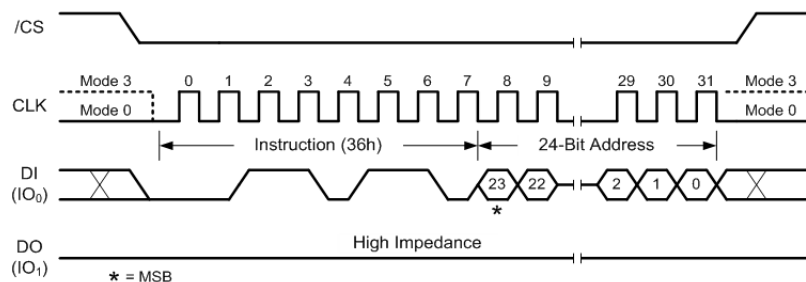
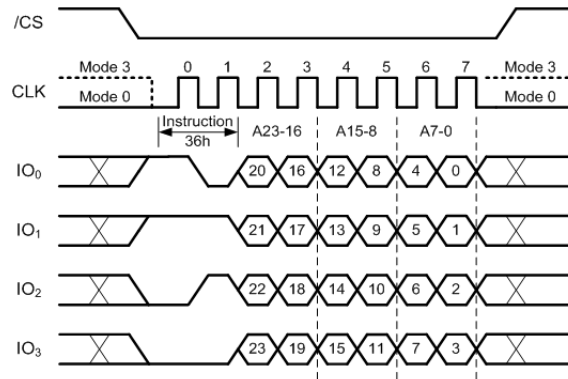

Figure 17: Individual Block/Sector Lock Instruction (SPI Mode)
Figure 18: Individual Block/Sector Lock Instruction (QPI Mode)
To lock a specific block or sector as illustrated in Figure 17 and Figure 18, an Individual Block/Sector Lock command must be issued by driving /CS low, shifting the instruction code “36h” into the Data Input (DI) pin on the rising edge of CLK, followed by a 24-bit address and then driving /CS high.